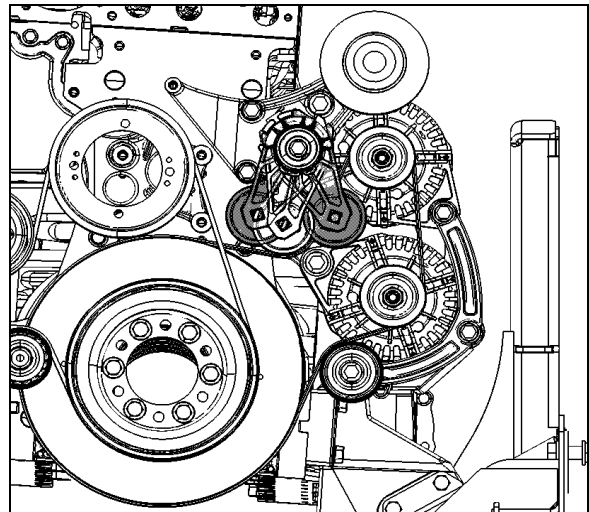
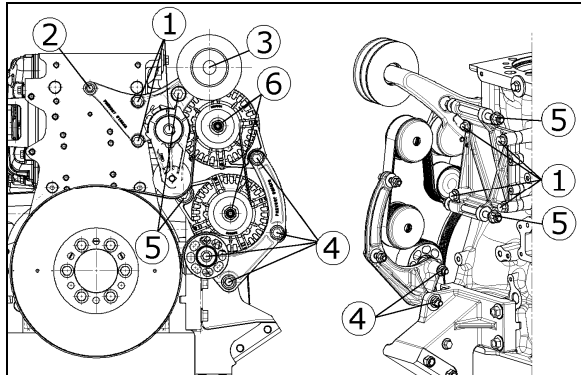

FIGURE 18: ALTERNATORS DRIVE BELT
FIGURE 19: ALTERNATORS AND ACCESSORIES MOUNTING TORQUES (H3 COACH SHOWN)
If the alternators needed to be removed, reinstall as follows. Refer to figure 18 for installation and to figure 19 for tightening specifications:
1. If necessary, tighten 6 screws fixing alternators support assembly onto engine (item 1, fig.19). Torque tighten to 43 lb-ft, use some Loctite 243 blue (680038) onto the threads. Also tighten the screw fixing belt tensioner onto alternators support assembly (item 1, fig.19). Torque tighten to 43 lb-ft, use some Loctite 243 blue (680038) onto the threads.
2. If removed, reinstall screw fixing alternators support assembly onto engine (item 2, fig.19). Torque tighten to 22 lb-ft, use some Loctite 243 blue (680038) onto the threads.
3. Mount the A/C compressor idler pulley onto alternators support assembly (item 3, fig.19). Torque tighten to 150 lb-ft, use some Loctite 243 blue (680038) onto the threads.
4. Install alternators arched support loosely onto engine. If removed, install alternators idler pulley (item 4, fig.19) onto alternators arched support, torque tighten to 43 lb-ft.
5. Fix lower and upper alternators loosely to alternators support assembly (bolts 5, fig.19). Also, mount lower and upper alternator loosely onto alternators arched support. If removed install stone guard below lower alternator.
7. Mount pulleys (6, fig.19) onto alternators. Torque tighten to 58 lb-ft.
8. Install alternators belt (fig.18).
1. Insert a $\frac{3}{4}$ " socket drive into the automatic belt tensioner opening (fig. 18).